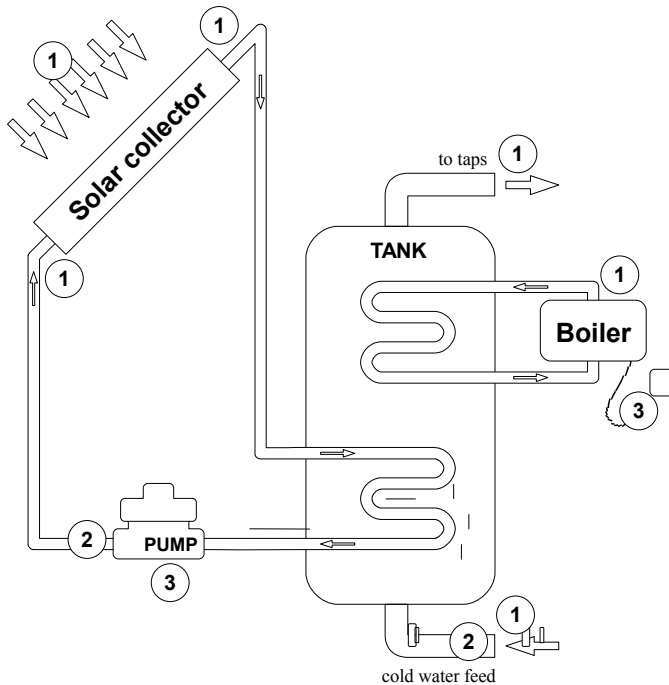

Figure 9.17. Map of monitored physical quantities in water heating system
The system consists of three types of sensors: temperature (1), flow (2) and power (3). Locations of measurement points in the system are shown in **Figure 9.17**.